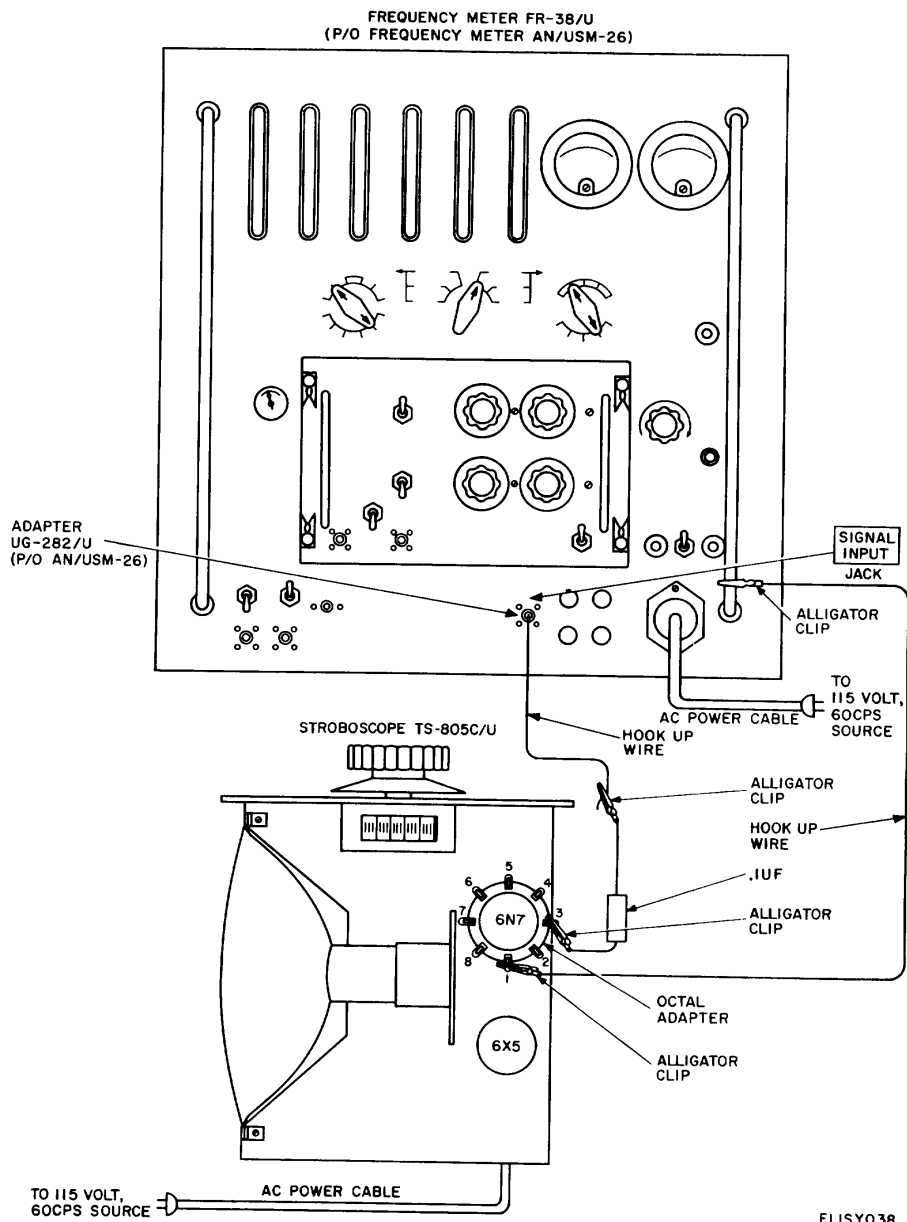

Figure 4-14. TS-805A/U Stroboscope Frequency Test Connection Diagram .
b. **Test Connections and Conditions.** Connect the equipment as shown in figure 4-14.